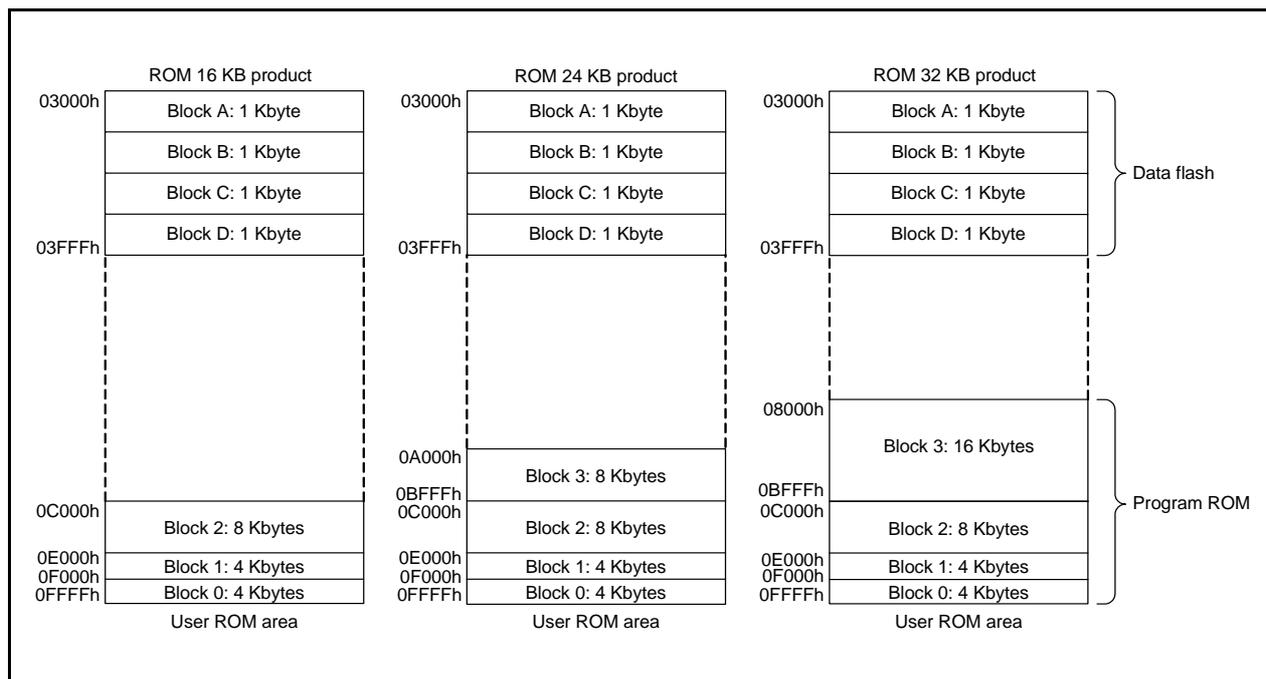

Figure 25.1 R8C/3JT Group Flash Memory Block Diagram
- The number of blocks and block division vary with the MCU. Refer to **Figure 25.1 R8C/3JT Group Flash Memory Block Diagram** for details.
Figure 25.1 shows the R8C/3JT Group Flash Memory Block Diagram.